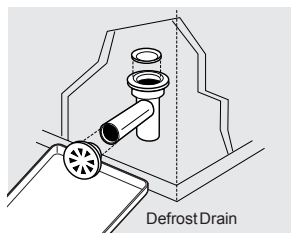
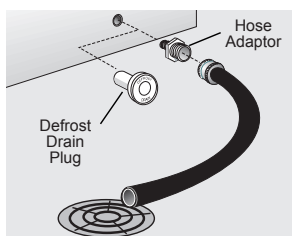
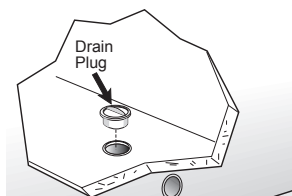

Figure 2
Figure 3
Figure 4
- **On chest models with a defrost drain**, place a shallow pan beneath the drain outlet (Figure 2). A $\frac{1}{2}$ inch garden hose adapter can be used to drain the freezer directly into a floor drain (Figure 3). If your model is not equipped with an adapter, one can be purchased at most hardware stores. Pull out the drain plug inside the freezer, and pull off the outside defrost drain plug (Figure 4).